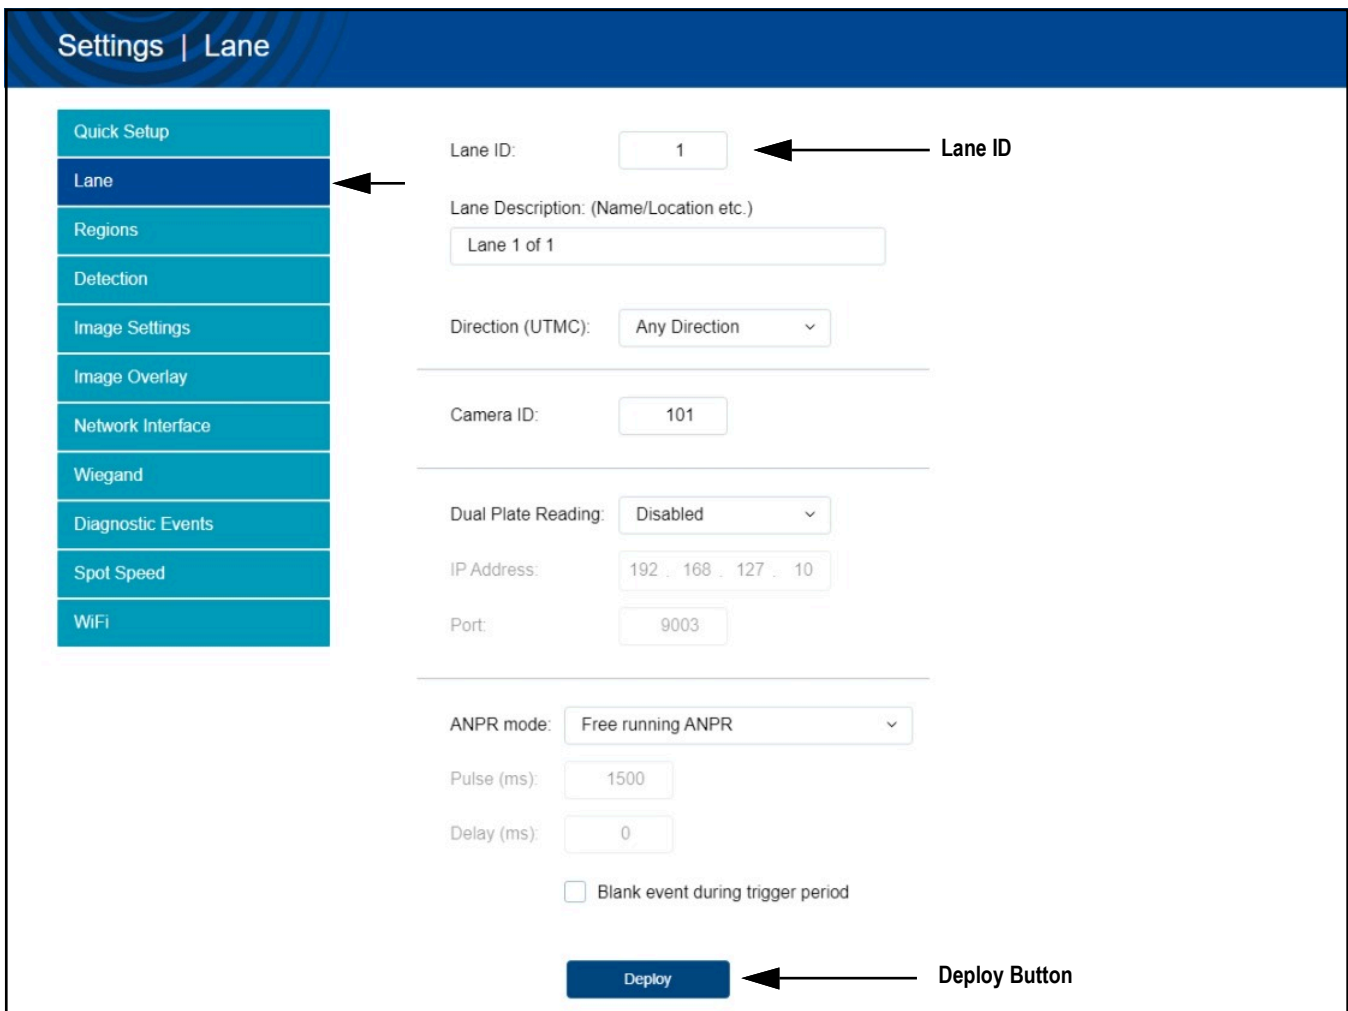

Figure 11-3. Lane Parameters
**NOTE:** Locate the Lane ID parameter in the Lane Menu of the TagMaster® CT45 online software (Section Figure 11-3. on page 138).